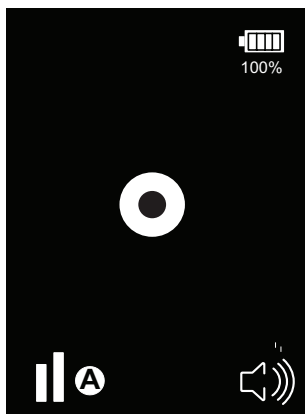

Fig. 6: Steady state display.
- The CS LD 1.0 is ready to begin searching for leaks when the steady audio “beep” sounds. The center circle will flash in sync with the audio (Fig. 6)